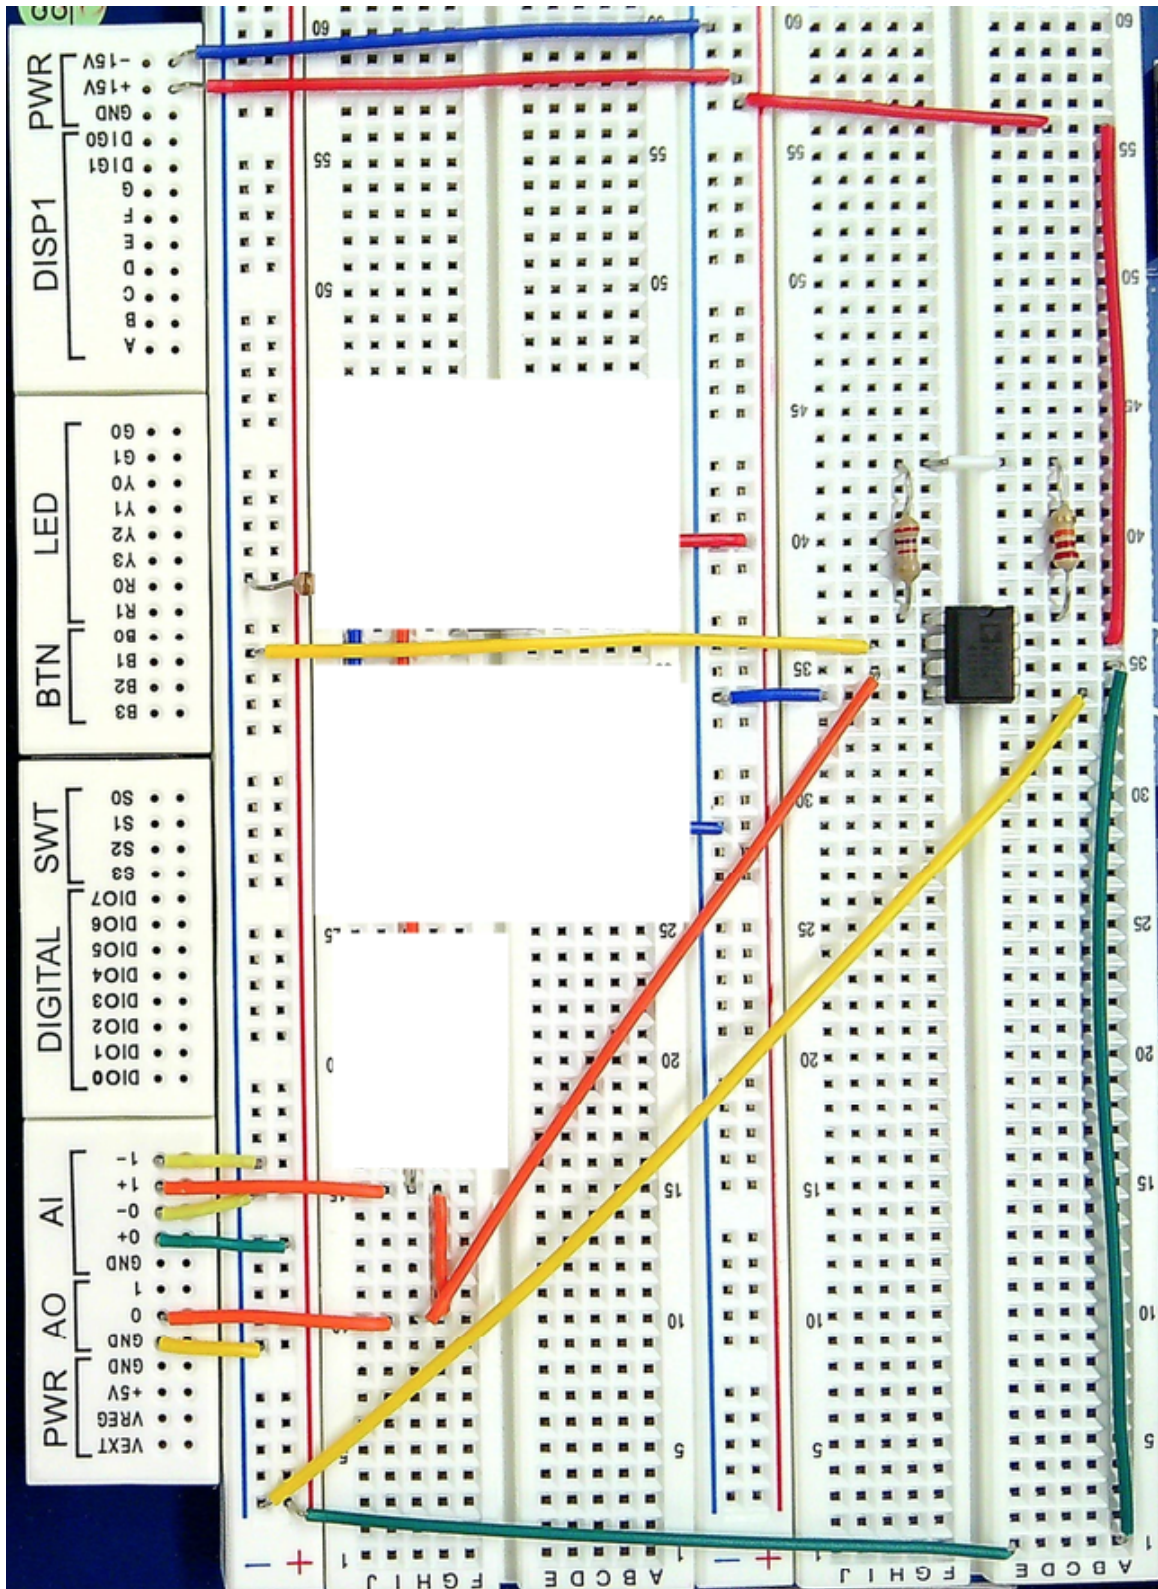

Figure 3: Sample wiring diagram for AD622 instrument amplifier.
- Use the datasheet link (ref. 7.2) given at the end of this document as reference.
4. Place the instrumentation amplifier on the breadboard across the center channel as seen in figure 3.
8. Sample breadboard circuit is shown in figure 3.